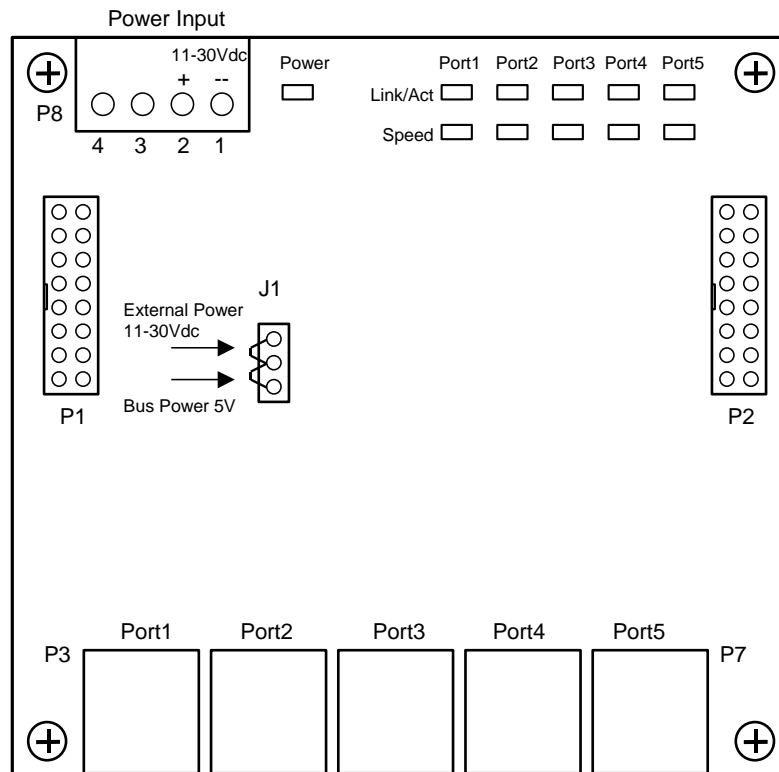

Figure 2: 5910 Module Layout
The 5910 module has six connectors for field wiring. Refer to **Figure 2: 5910 Module** Layout for the location of these connectors.
- Locate connector P8 on the 5910 module. Refer to **Figure 2: 5910 Module Layout** for the location of P8.